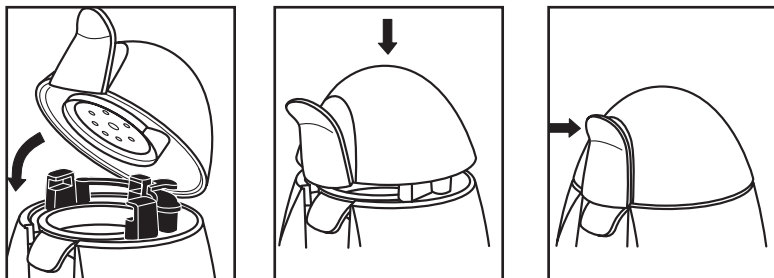

FIGURE 7
7. To close the Lid, press down firmly on the top of the Lid and hold in place while pushing the Lever back so it is flush with the Lid and locks into place, see Figure 7.
8. To close the Lid, press down firmly on the top of the Lid and hold in place while pushing the Lever back so it is flush with the Lid and locks into place. See Figure 7.